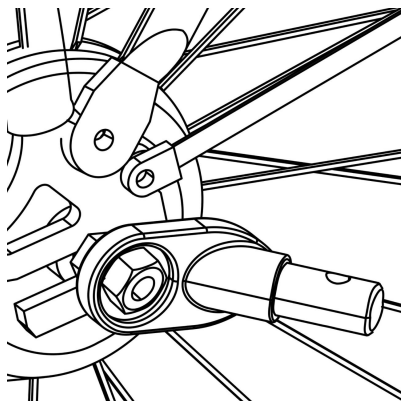

Figure 11
2. Nutted Axle: Unscrew the nut with washer from the left side of bike's rear axle. Install the hitch onto the axle and screw the nut back on with the washer(Figure 11).